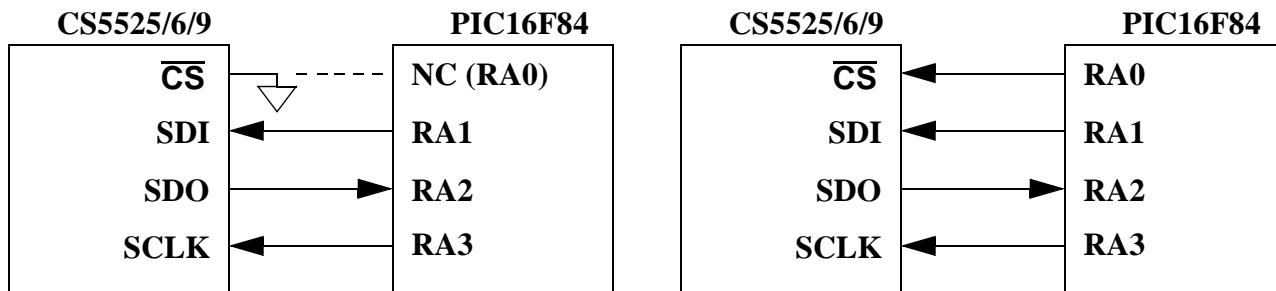

Figure 1. 3-Wire and 4-Wire Interfaces
The CS5525/6/9 interfaces to the PIC16F84 through either a three-wire or a four-wire interface. Figure 1 depicts the interface between the two devices. Though this software was written to interface to Port A (RA) on the PIC16F84 with a four-wire interface, the algorithms can be easily modified to work with the three-wire format.
Initialize is a subroutine that configures Port A (RA) on the PIC16F84 and places the CS5525/6/9 in the command-state. First, RA's data direction is configured as depicted in Figure 1 (for more information on configuring ports refer to Microchip's PIC16F8X Data Sheet). After configuring the port, the controller enters a delay state to allow time for the CS5525/6/9's power-on-reset and oscillator to start-up (oscillator start-up time is typically 500 ms). The last step is to reinitialize the serial port on the ADC (reinitializing the serial port is unnecessary here, it was added for demonstration purposes only). This is implemented by sending the converter sixteen bytes of logic 1's followed by one final byte, with its LSB logic 0. Once sent, the sequence places the serial port of the ADC into the command-state, where it awaits a valid command.